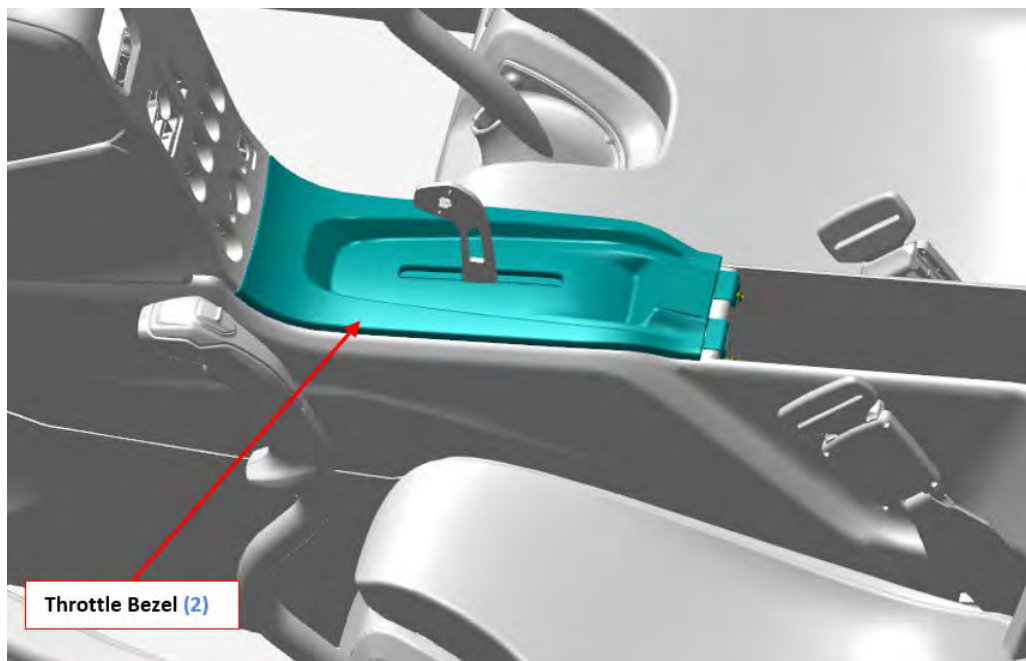

FIGURE 9-9
2. Install throttle bezel. Slide bezel tabs under radio stack bezel and push bezel into place. See Figure 9-9.